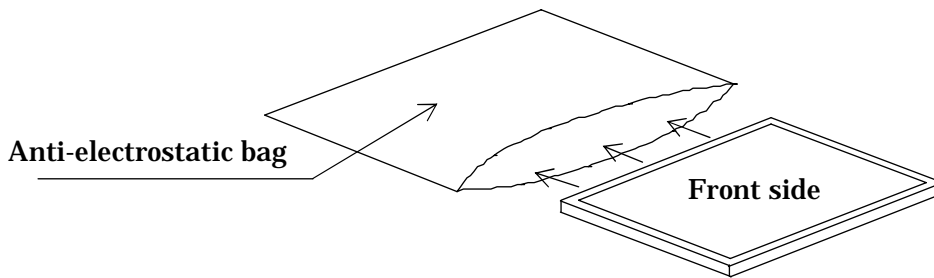

Fig. 17-1(a) Packaging method
(8) Return method of the LCD module requested for repair or analysis of the problem
- When returning the LCD modules, adhere to the following procedures not to damage the LCD panel or the backlight cables. (Fig. 17-1(a)~(b))
(1) Attach protective sheet.
(2) Put the backlight cables in slots.
**(3) Put the LCD module into the anti-electrostatic bag